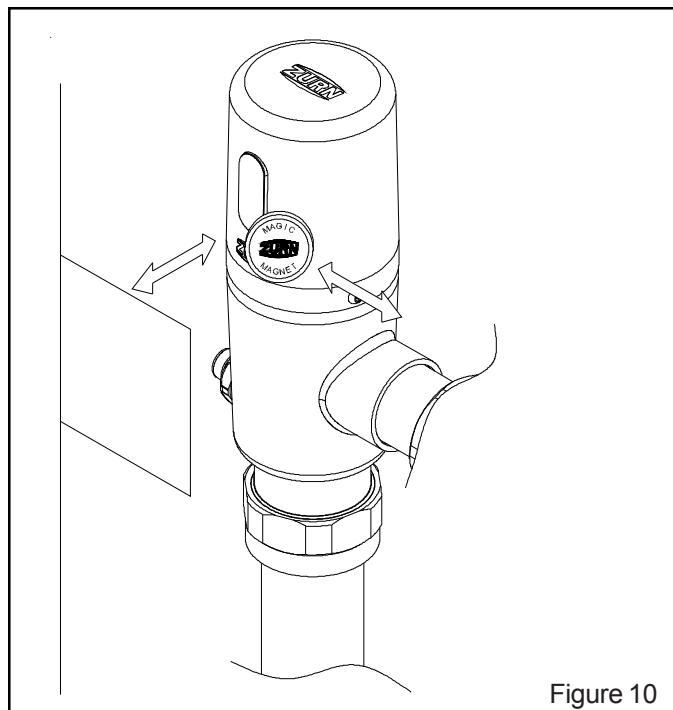

Figure 10
2. Place the Zurn "Magic Magnet" on the front of the valve as shown in Figure 10 and move slightly until the LED flashes.